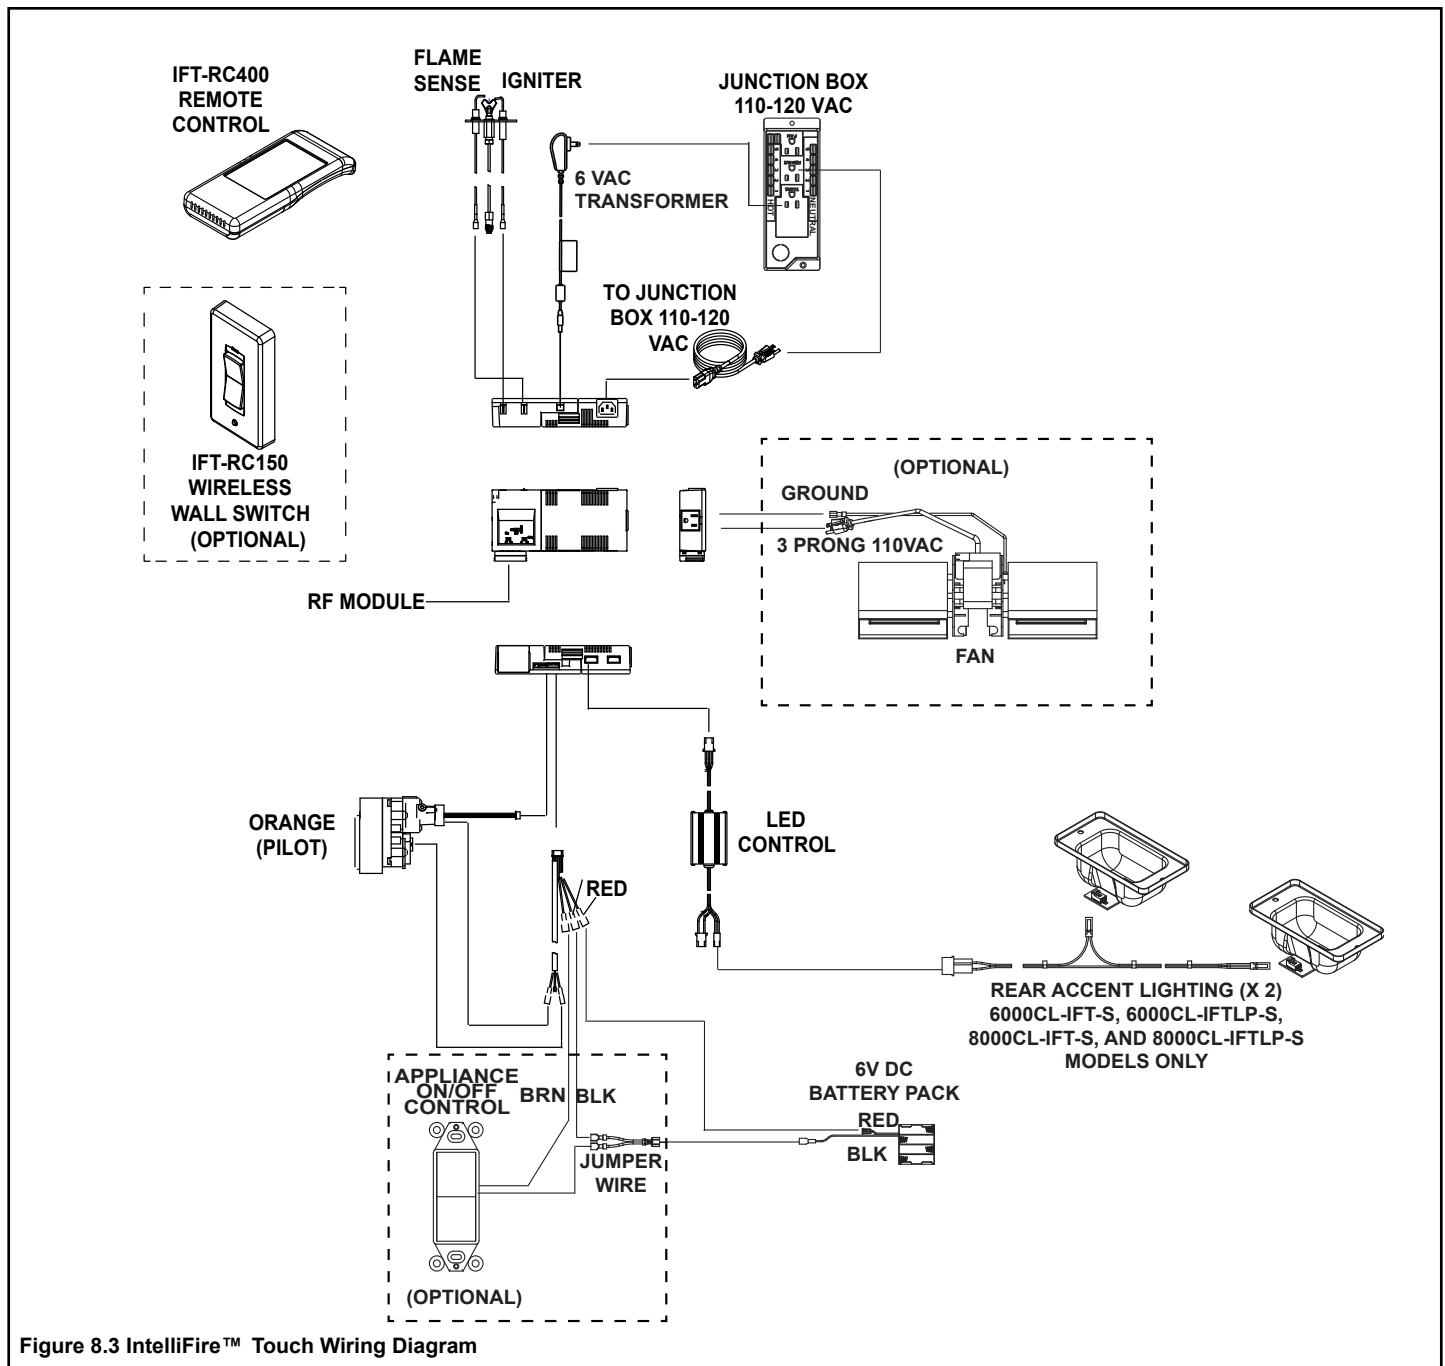

Figure 8.3 IntelliFire™ Touch Wiring Diagram
- Refer to Figure 8.3, IntelliFire™ Touch Wiring Diagram.